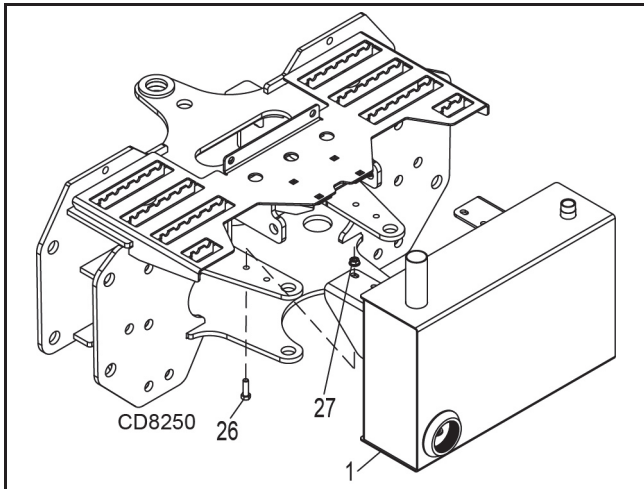

Figure 1. Reservoir Installed
1. Attach adapter (13) and elbow (16) to filter housing (6). Attach this assembly to threaded pipe on top of tank (1). Position as shown.
2. Install adapter (14) and elbow (19) in strainer assembly (8). Attach this assembly to the port located in the lower side of the tank.
3. Install breather cap/dipstick (5) into tube on top of tank.
4. Attach tank to backhoe mainframe using cap screws (26) and lock nuts (27) as shown in Figure 1.